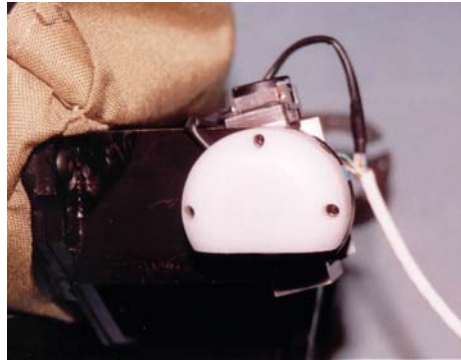

Figure 17.12- Proper positioning of the potentiometer cover
11. Place the Potentiometer Cover (T1LAM011) over the exposed terminals of the yoke axis rotary potentiometer, so that the small groove in the cover provides strain relief to the wire. Align the hole pattern of the cover with the pattern on the side support bracket, and secure the covers to the brackets using three #4-40 x 5/8" SHCS {3/32}, as shown in **Figure 17.12**.